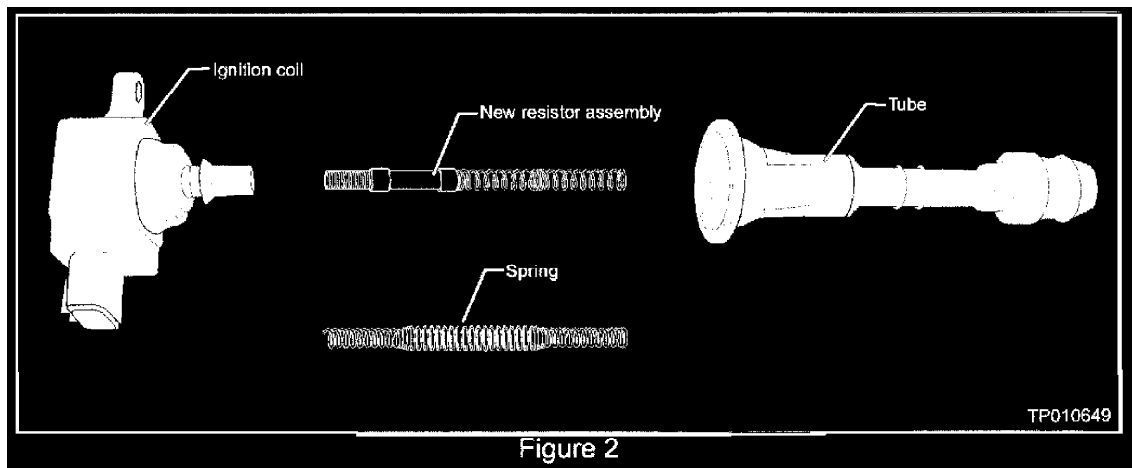

Figure 2
- B. Remove the spring from the ignition coil tube and discard. Insert the new resistor assembly into the ignition coil tube exactly as shown in Figure 2.